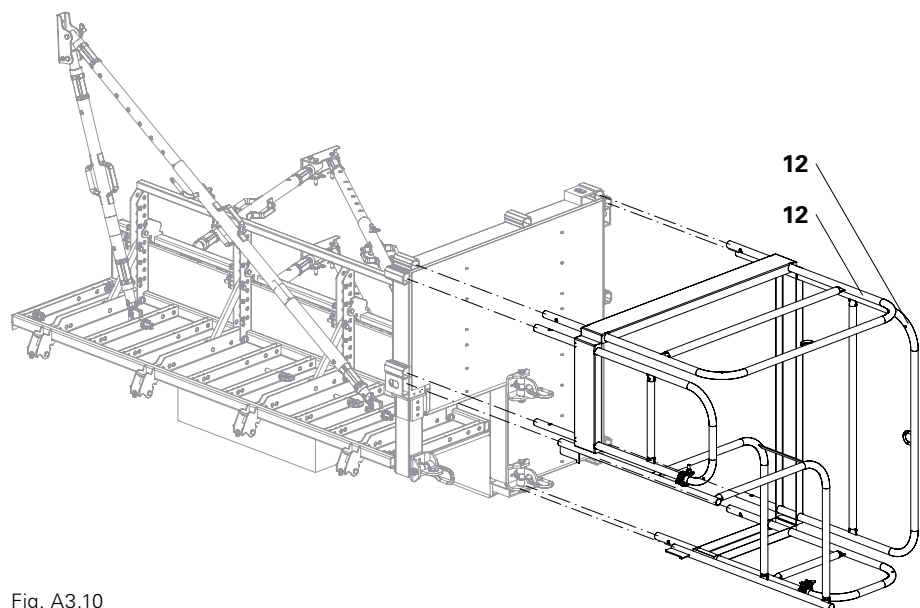

Fig. A3.10
6. Insert Platform Guardrail (12), Guardrail 134, 2 x, Guardrail 52, 1 x. (Fig. A3.10)